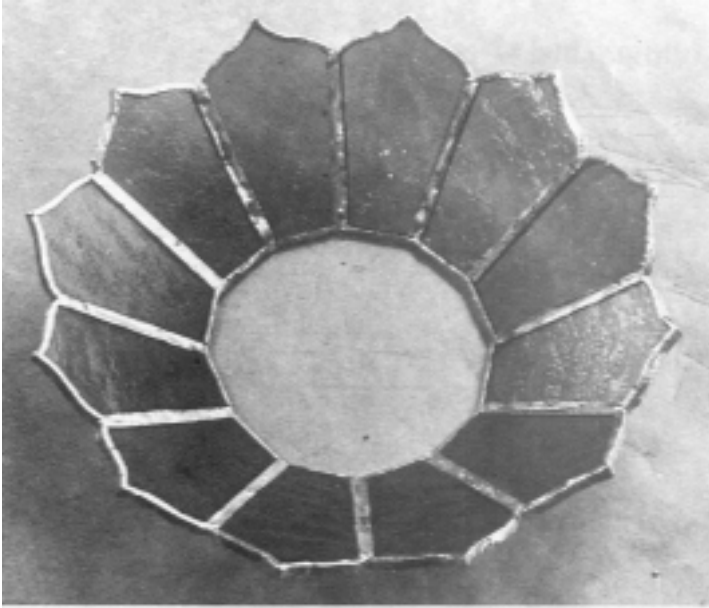

Fig 14.8
13. Make the crown (A panels) separately in the same way the B panels were assembled (step 4). When the crown is complete (fig 14.8), bead all the joints and solder it on to the top of the lamp. "Tin" a length of foil and wrap it around the join between crown and lamp to tidy it up (fig 14.9).